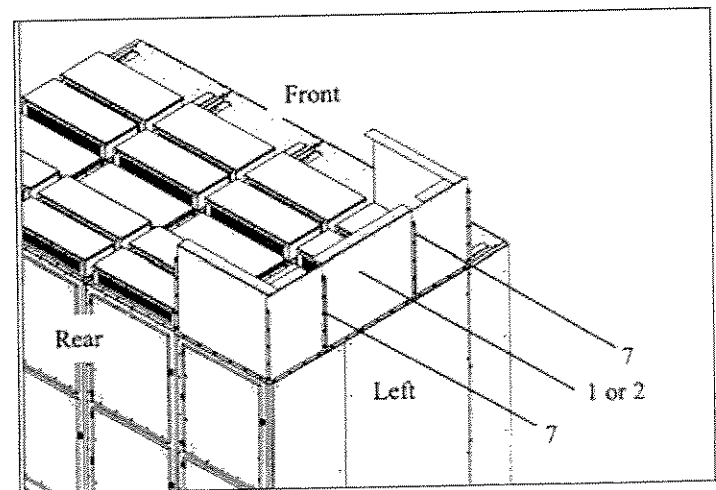

Figure 25. Detail of the Left Arc Duct Plenum Wall.
C. Complete the left arc duct plenum wall (see Figure 25).
- Using the 0.25" self-tapping screws, fasten two vertical seam covers (7) to the vertical flanges, as shown in Figure 25.